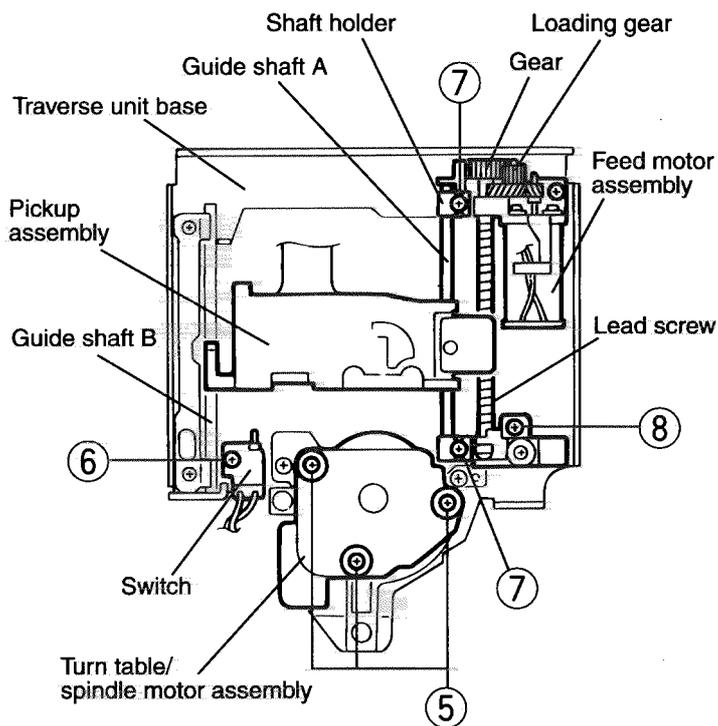

Fig. 9
(See Fig.9)
4. Remove the three screws ⑤ attaching the turn table/spindle motor assembly.
**■ Removing the Switch** (See Fig.9)
4. Remove the screw ⑥ attaching the switch.
**■ Removing the Pickup unit** (See Fig.9)
4. Loosen the two screws ⑦ attaching the shaft holder to fix the guide shaft A. Then, remove the screws ⑦ with the pickup unit while pulling out the pickup unit from the guide shaft B.
(See Fig.9 and 10)